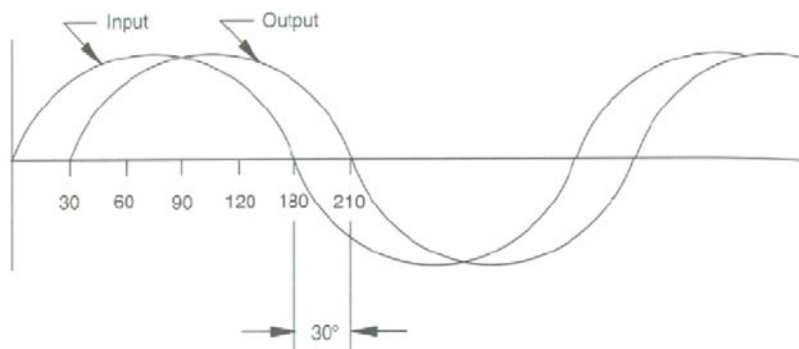

FIGURE 11.26
- Phase lag is number of degrees that output lags behind input. (Fig 11.26)